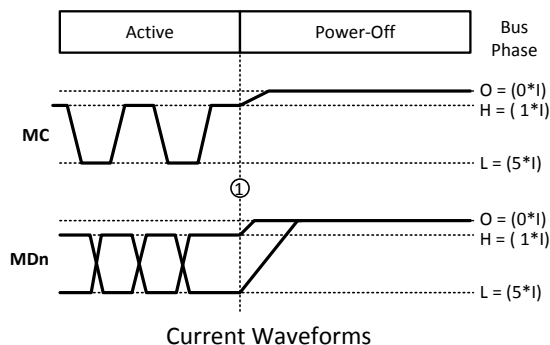

Figure 10. Bus Power Down Timing
(5) Specified functionally by the IDDZ parameter. See also Figure 10.
In the OFF phase, MPL transmitters are turned off with zero current flowing on the MC and MDn lines. Figure 10 shows the transition of the MPL bus into the OFF phase. If an MPL line is driven to a logical Low (high current) when the OFF phase is entered it may temporarily pass through as a logical High (low current) before reaching the zero line current state. The link may be powered down by asserting both the SER's and DES's PD\* input pins (Low) or by stopping the PCLK (DES dependant). This causes the devices to immediately put the link to the OFF Phase and internally enter a low power state.